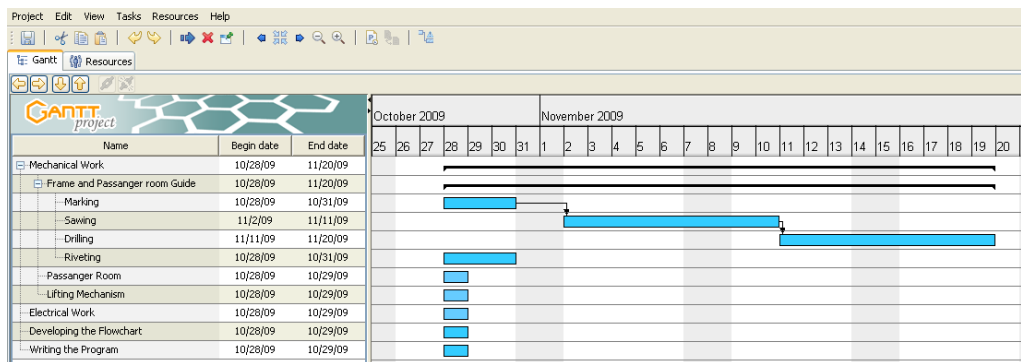

Figure 3.15: A sample of tasks dependencies.
14. Click and hold the Gantt bar for **sawing**, drag it to the Gantt bar for **drilling**, and then release the mouse button. This step specifies that the start of the third subtask is dependent on the completion of the second, and moves the start date of the third subtask as illustrated in figure 3.15.